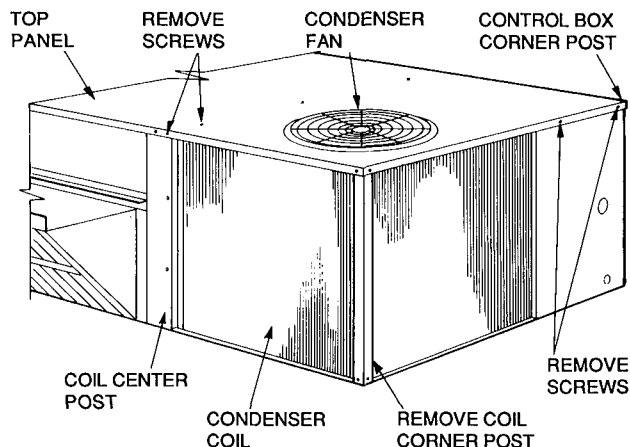
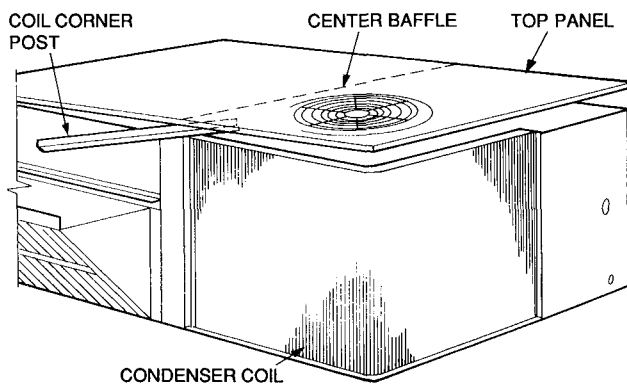

Fig. 14 — Cleaning Condenser Coil
Fig. 15 — Propping Up Top Panel
3. Remove condenser coil corner post. See Fig. 14. To hold top panel open, place coil corner post between top panel and center post. See Fig. 15.